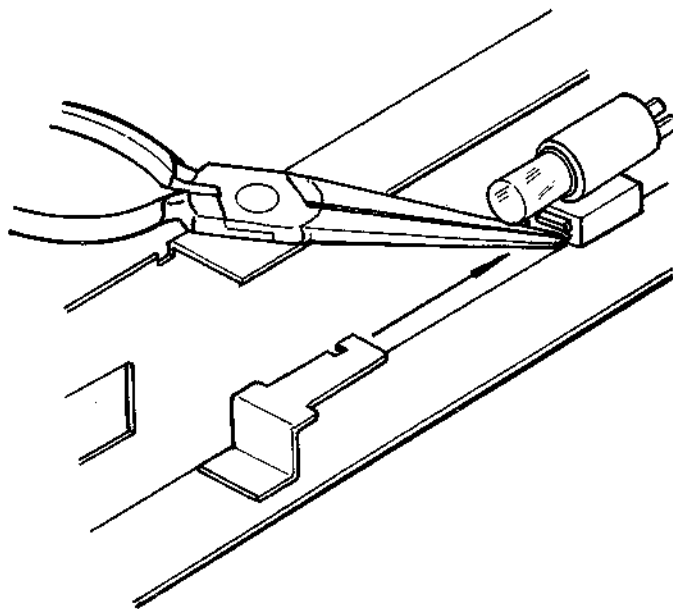

Fig. 2-9
- (b) Grasp the lamp socket with a pair of pliers and slide it off the lamp socket bracket. See Fig. 2-9.